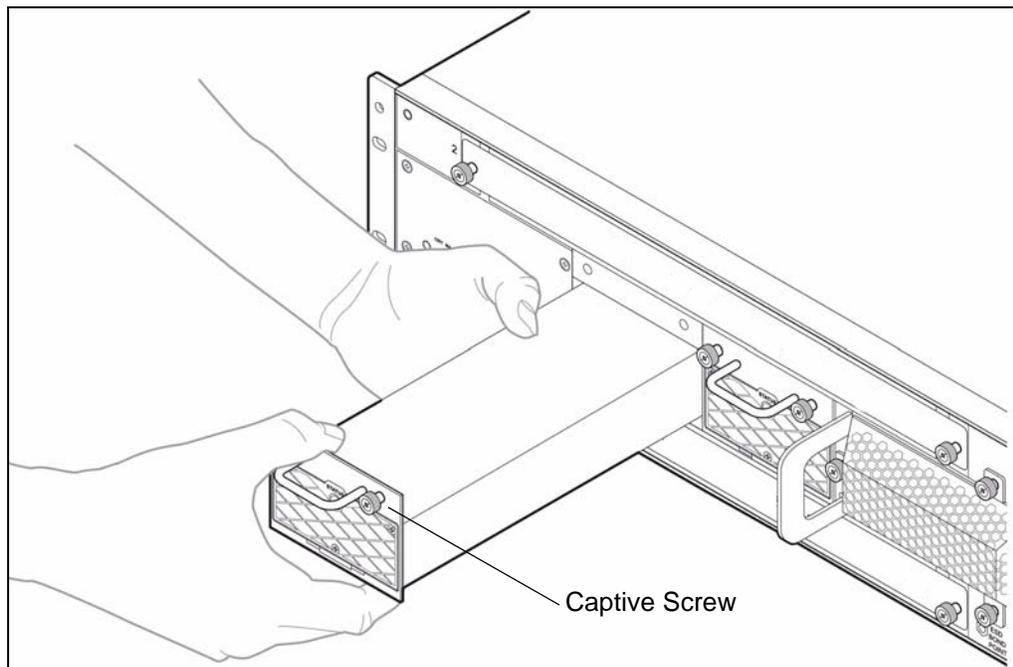

Figure 5.3 - Inserting the Replacement AC PEM
7. Insert the replacement PEM (Figure 5.3).